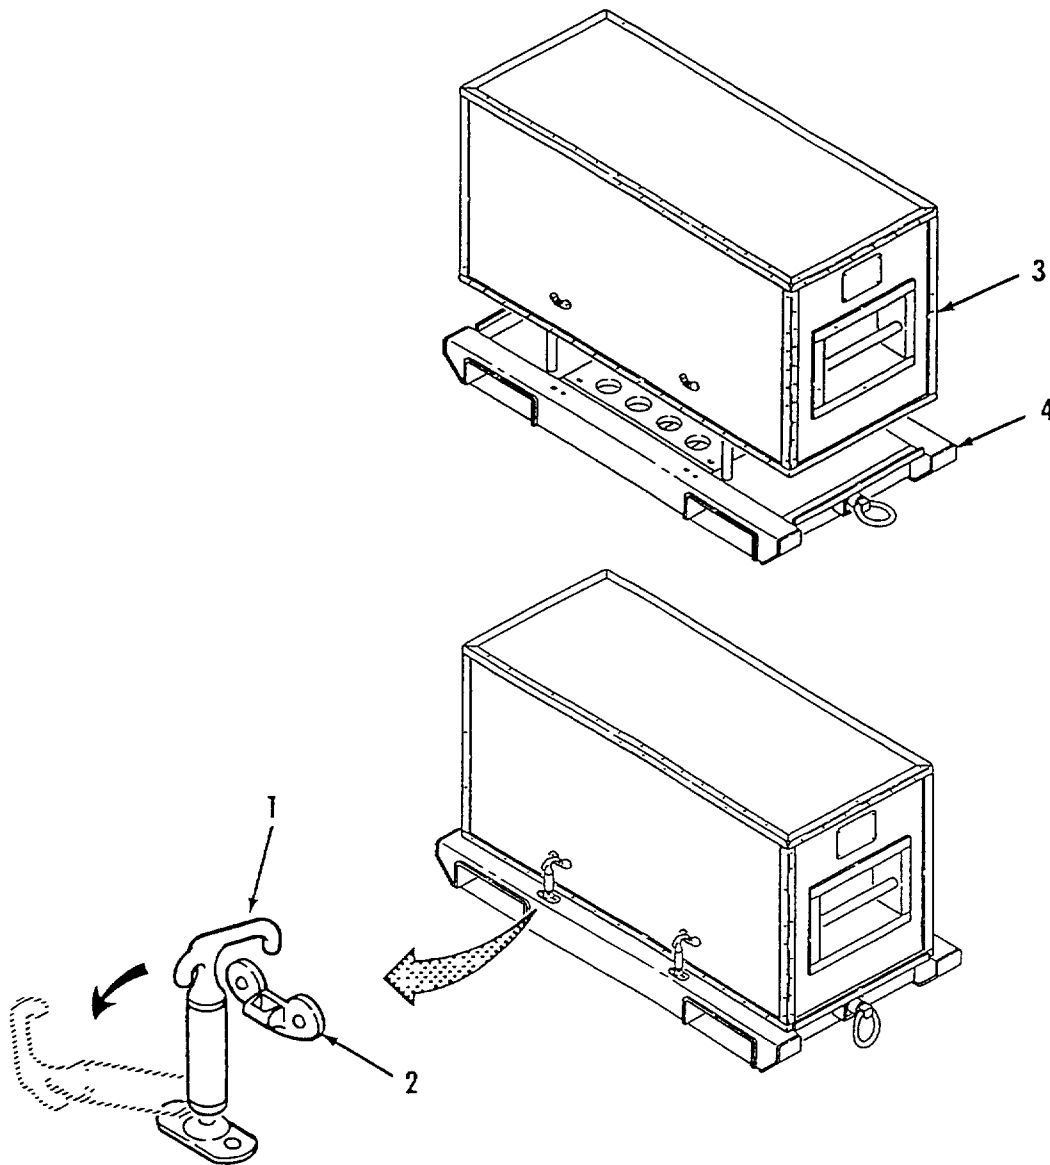

Figure 2-11. Cover Removal.
d. Remove Covers. Refer to figure 2-11.